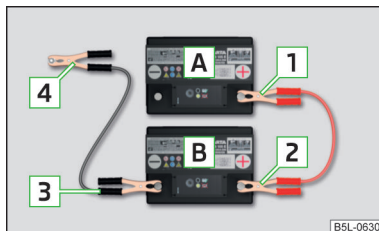

Fig. 138
- Attach clamp **1** to the positive terminal of the discharged battery **A** » Fig. 138.